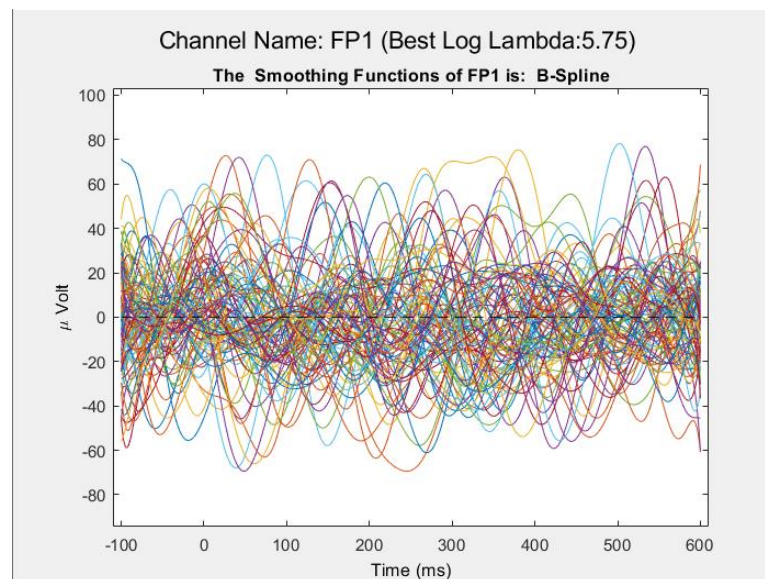
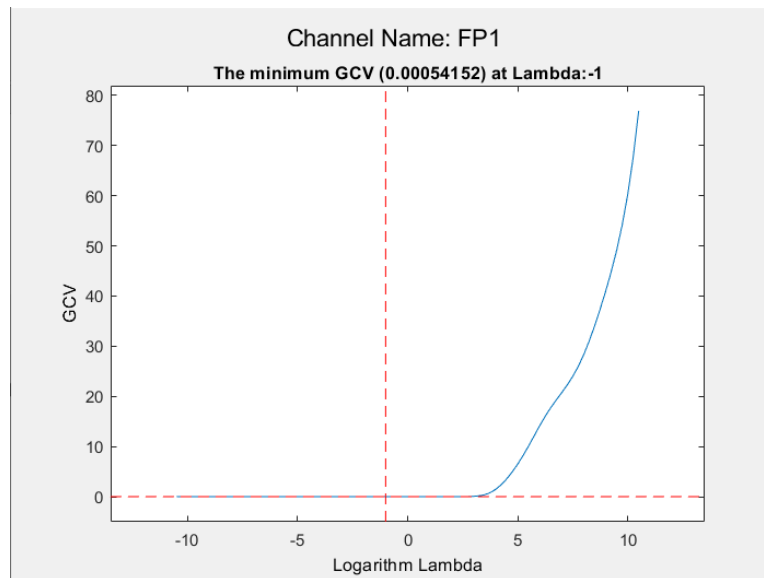

Figure 9 – The smoothed curves with the minimum GCV.
Figure 10 – The GCV curve with 120 B-spline basis function.
- 2- Figure 9. The smoothed curves with the selected lambda.
Figure 9 is very smooth that is not very useful for modeling the ERP curves. We can add several basis functions and increase them to the large values for example **120** and do it again with **GCV**. The result is shown in figure 10 (GCV) and 11 (smooth curves).